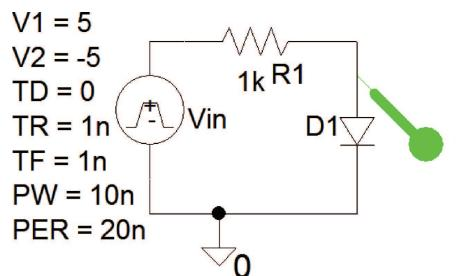

FIGURE 7.40: Measuring diode turn on/off times
- (2) In Fig. 7.40, investigate the diode turn on/off times using a VPULSE generator with a very fast ± 5 V pulse (I suggest $TR = TF = 0.1\text{ns}$, $PW = 10\text{ ns}$, $PER = 20\text{ ns}$). Plot the diode current.
- (3) Plot the Zener diode impedance in the different regions of the characteristic. Use the **D** operator.